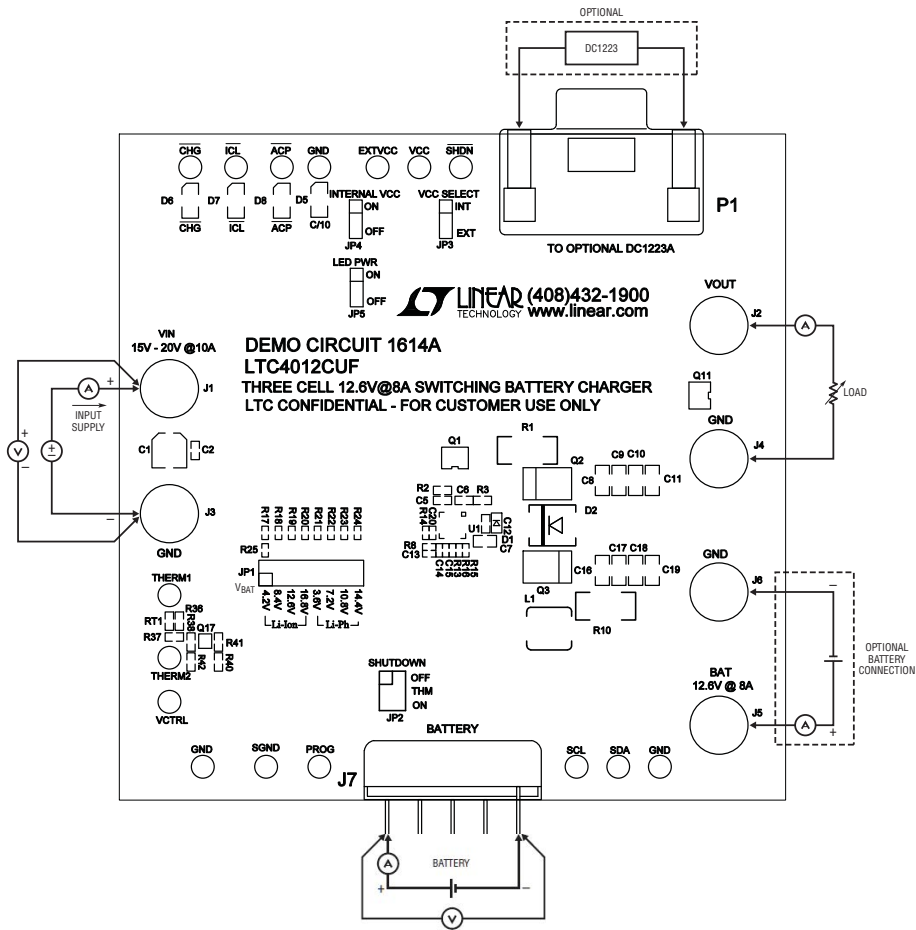

Figure 1. Proper Measurement Equipment Setup
Demonstration circuit 1614 is easy to set up to evaluate the performance of LTC4012. Refer to Figure 1 for proper measurement equipment setup and follow the procedure below.
1. With all power off, connect an input power supply capable of more than 10A, system load, battery, and meters as shown in Figure 1. Preset the load to 0A and V_{IN} to 0V, 0A current limit. The input supply voltage **must** be greater than the full voltage value of the battery to allow a full charge to take place.
9. Optionally use the provided DC1223A-B demonstration software to configure and communicate with the DC1614A, connecting DC1223A-B as in Figure 1.